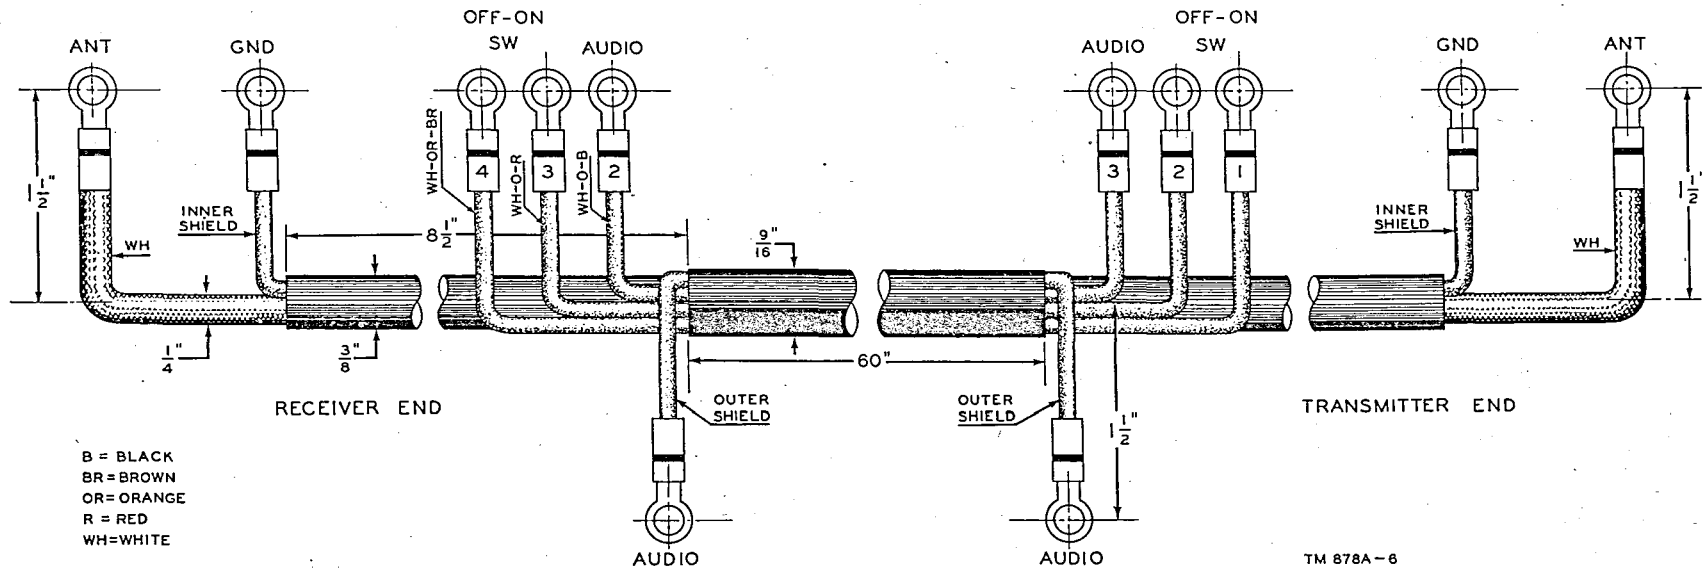

Figure 4. Interconnection cable used with Radio Receiver R-96 A/SR and Radio Transmitter T-88/SR.
No additional equipment is required for the operation of this receiver as a single unit, assuming proper power supply leads and antenna connections are available. If the receiver is used in conjunction with Radio Transmitter T-83/SR, a special connecting cable must be used. This cable (fig. 4) is supplied with the transmitter.
c. When the receiver is used in conjunction with Radio Transmitter T-83/SR, an interconnecting cable between the two units, as shown in figures 4 and 8, must be used. This cable is supplied with the transmitter as a part of the spare parts components. It is connected between the receiver and transmitter and grounds the receiver input when the transmitter is in operation. It also allows sidetone operation of the transmitter and provides connections for the use of a remote speaker. Figure 8 is a schematic diagram that illustrates the interconnections between the two units. The cable connections to the receiver are indicated in figures 4 and 8. Make sure that all cable connections are secured firmly to the terminal board and the antenna binding post.